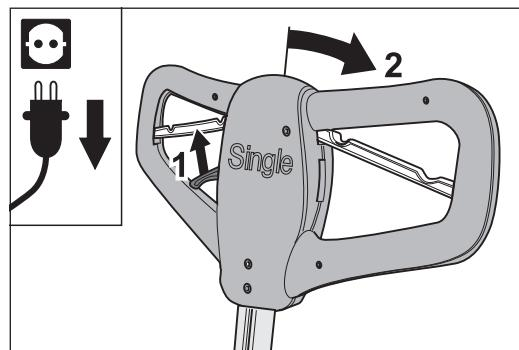

Fig. 29 Pull the adjusting lever to release the lock on the guide tube.
- 5 Pull the adjusting lever on the handle towards you to release the lock of the guide tube (Fig. 29) and push the guide tube back into a horizontal position.**